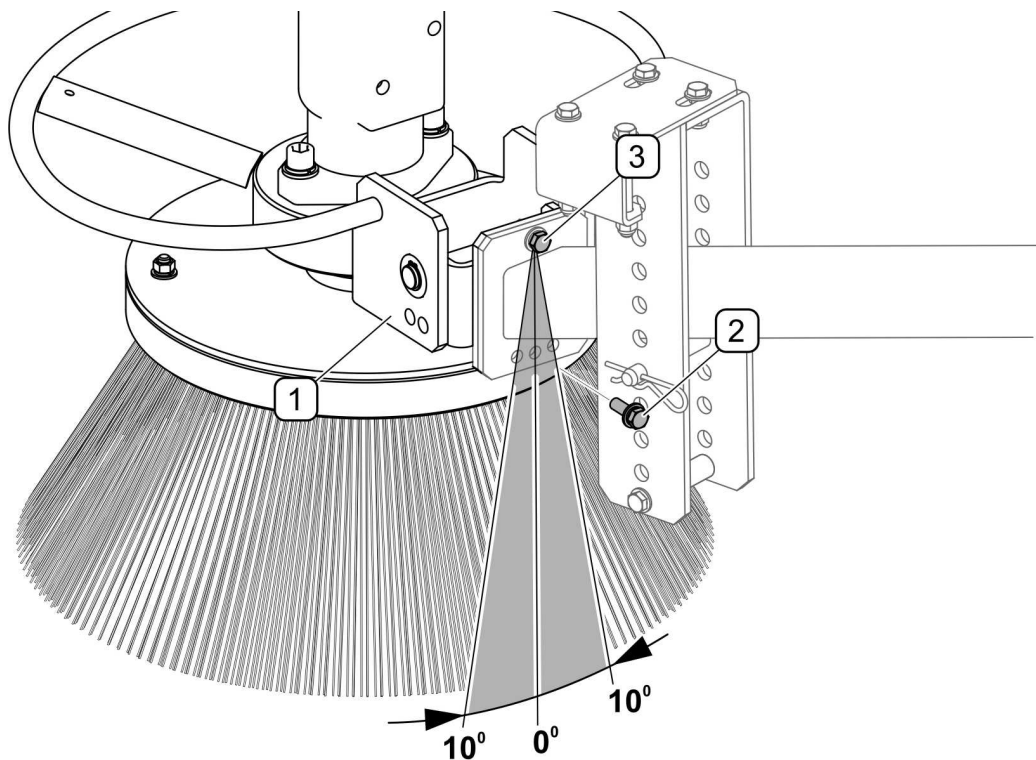

FIG. 5.6 Adjusting lateral tilt
(1) - brush head bracket, (2) - lateral tilt retaining bolt, (3) - bolt
To change the lateral tilt angle (FIG. 5.6), remove the retaining bolt (2), loosen the bolt (3) and turn bracket (1) to the right or left side so as to place the bolt (2) in the corresponding hole. Tighten the bolt (3).